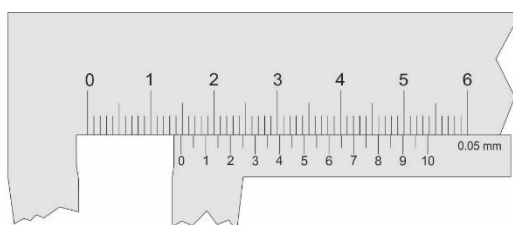

Figure 7 A vernier caliper with a 0,05 mm resolution
3.6. The least count or resolution of the vernier caliper in **figure 7** is 0.05 mm, not like the previous examples that were 0.02mm. In this case the vernier divisions represent 0.05 mm. What is the reading in this case?